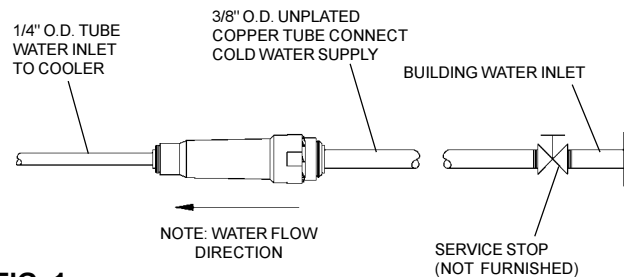

FIG. 1
3. Connect fountain to supply line with a shut-off valve and install a 3/8" unplated copper water line between the valve and the cooler. Remove any burrs from outside of water line. Push the tubes straight into the fittings until they reach a positive stop, approximately 3/4" (see figures 1 and 2). **DO NOT SOLDER TUBES INSERTED INTO THE STRAINER AS DAMAGE TO THE O-RINGS MAY RESULT.**